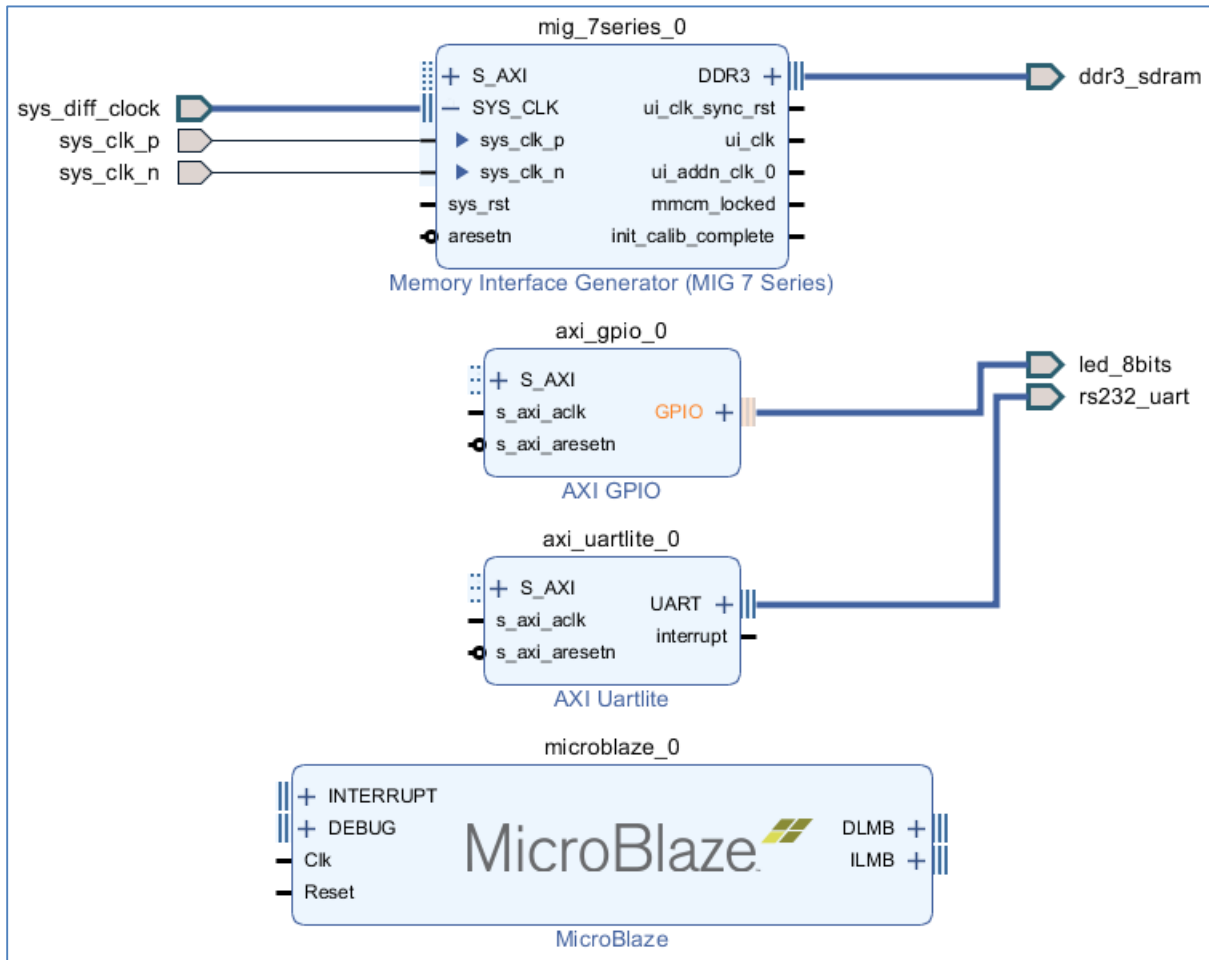

Figure 90: Block Design After Connecting the rs232_uart and the led_8bits Interfaces
- The block design now should look like Figure 90.